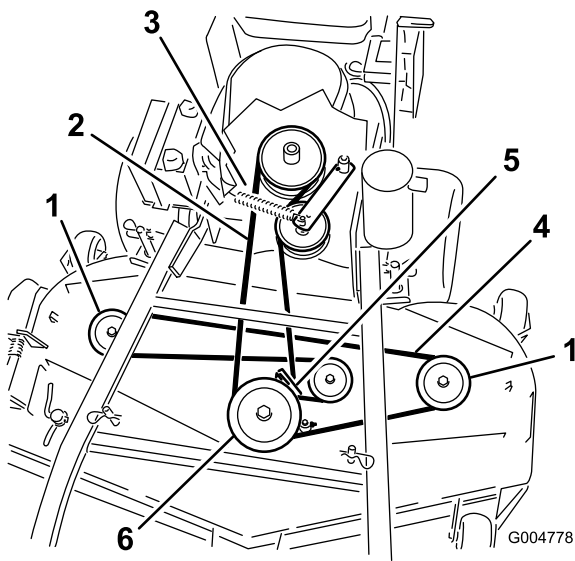
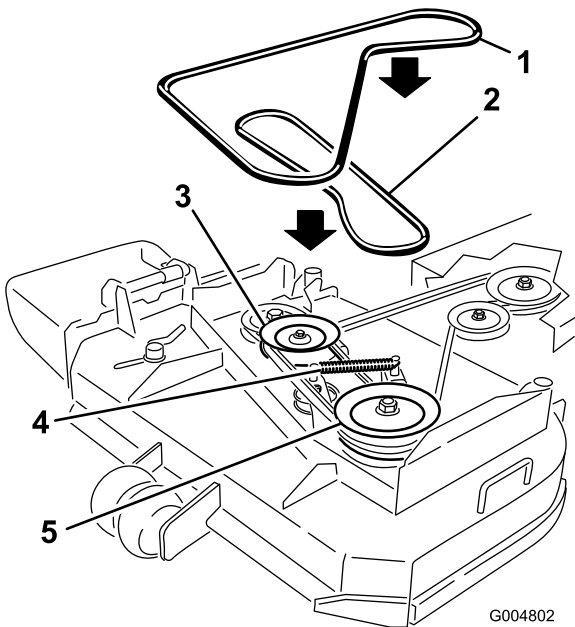

Figure 62
Figure 63
6. Disconnect the idler arm spring to relieve tension on the idler arm and idler pulley, then remove the worn mower belt (Figure 62 or Figure 63).
7. Install the new mower belt around the two outside spindle pulleys, the idler pulley, and in the lower groove of the double spindle pulley (Figure 62 or Figure 63).
8. Connect the idler arm spring (Figure 62 or Figure 63).
10. Adjust the belt guide an 1/8 inch (3 mm) from the belt (Figure 62 or Figure 63).